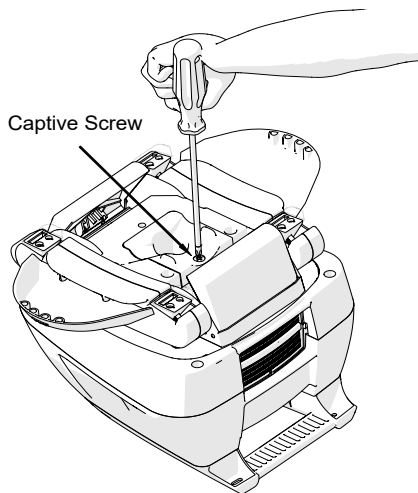

Fig. 9
3. Locate and loosen the captive screw behind the throat in the center of the bottom (see Figs. 9 & 10).
7. Reinstall the fixed access cover by lining it up with the two slots. (see Figs. 9 & 10).